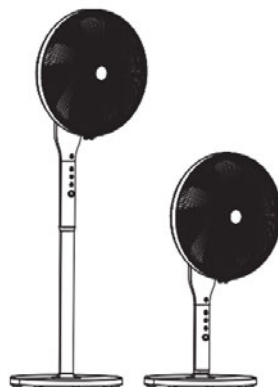

Fig. 9
6. Once the assembly is complete, you can plug the fan into the socket and follow the operating instructions (see figure 9).